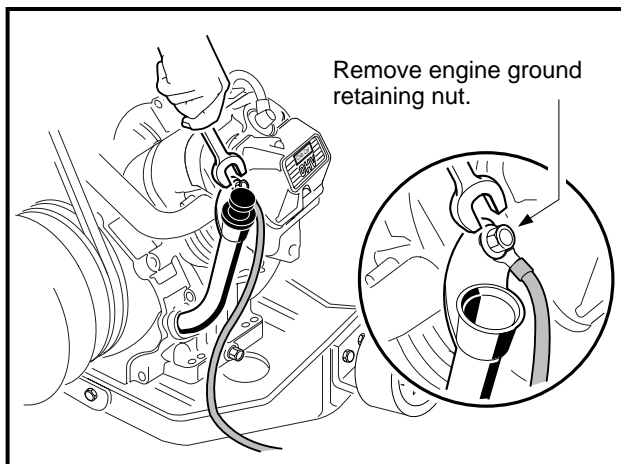

Figure 16-14 Engine Ground Wire
- 3.6. Disconnect the engine ground wire from the oil filler tube mounting bracket (**Figure 16-14, Page 16-9**).